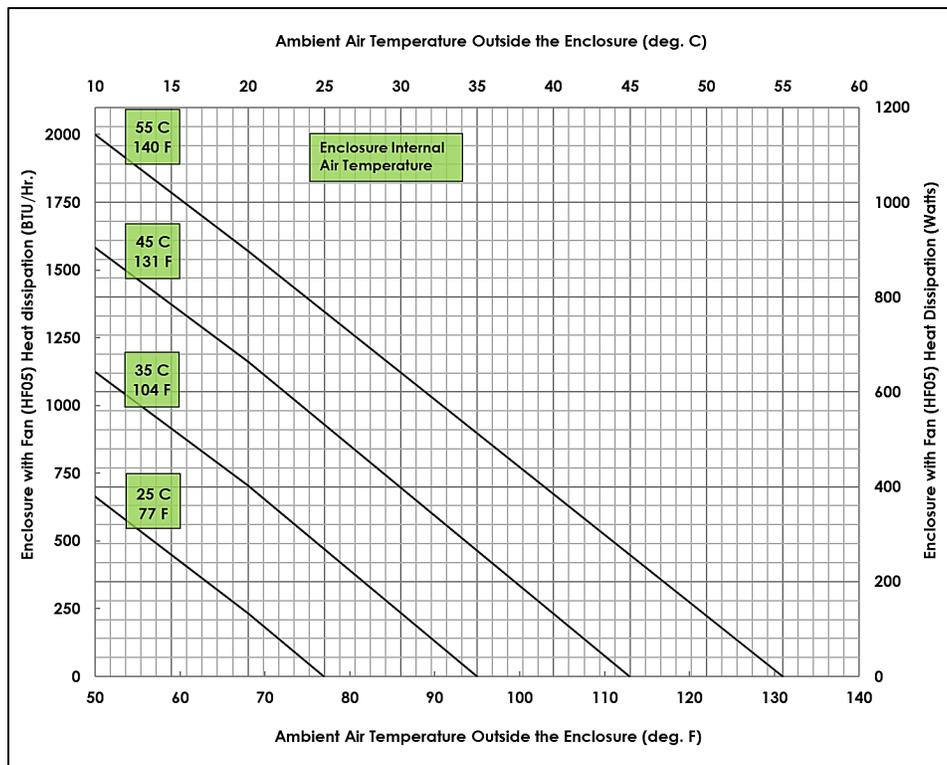

Figure 18: Z22 Enclosure Thermal Guideline – HF05 Fan Assisted. The HF05 Fan is available separately from Pentair.
5. Figure 18 provides the heat dissipation guide for a Panduit Z22 enclosure with an electronics cover and an HF05 fan with the IP54 filter kit.